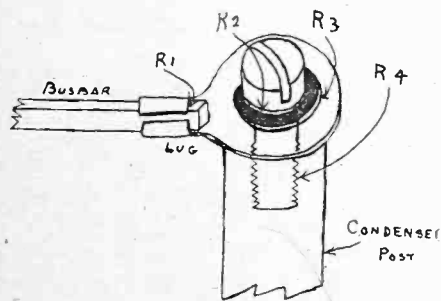

Fig. 1. Conduction Losses Here
This kind of loss is illustrated in Fig. 1, which shows the resistance at four points. R1 is the resistance between the end of the busbar wire and the soldering lug. Since this is covered with solder, the value here will be very low. R2 is the point of contact between the screw head and the washer, R3 between washer and lug, and R4 the resistance from the screw to the condenser post. These last three values will be low if the contact surfaces are clean and no dirt occurs between the parts and furthermore if the screw is set up tight. These resistances are in general very small at low frequencies of the order of 1,000 cycles and will not change considerably with the frequency, but the resistance of the plates themselves will change a great deal with the frequency. This is considered under item 3.